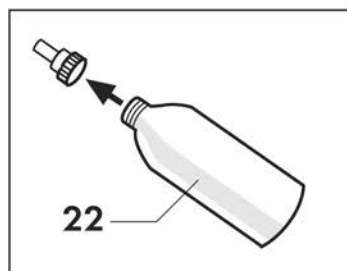

Fig. 2
Unscrew the cap on the bottle (22) that is supplied with the equipment; fill the bottle with demineralised water preferably; close the bottle again using the cap provided. **(Fig. 2)**